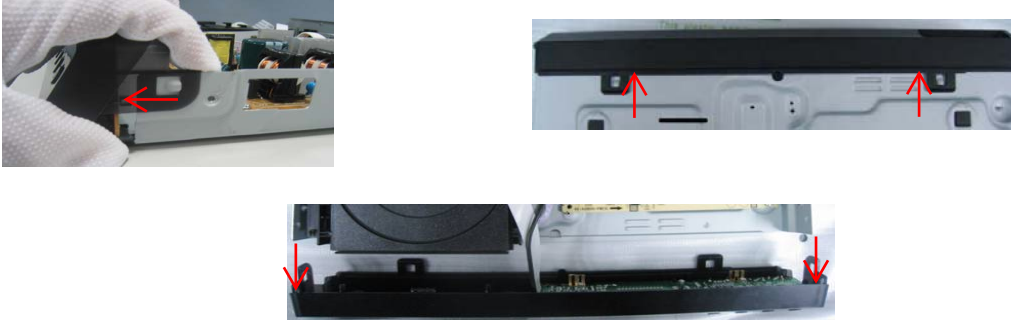

Figure 3
Step3 :Dismantle Front Panel, disconnect the connectors (XP12, XP4), need release 2 snaps of Front Panel & 2 snaps of bottom cabinet , then gently pull the Panel out from the set. (Figure 3)